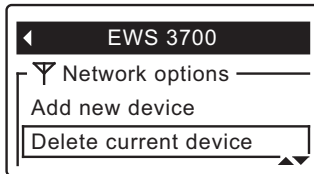

FIG. 78
3. Press the DOWN (▼) button to scroll through the menu options until **Delete current device** is highlighted in a box (See Figure 78).